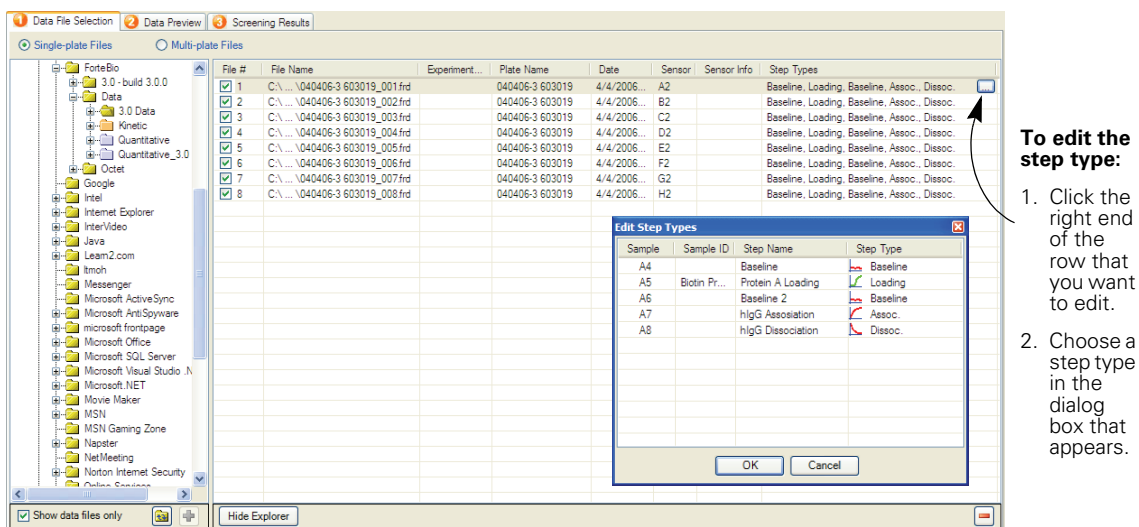

Figure 5.11 Editing the step type in the Data File Selection tab
- Figure 5.11 shows how to edit the step type.